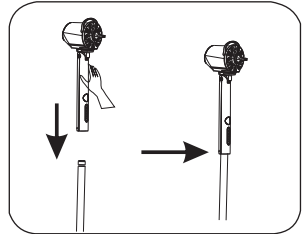

Figure 3
4. Loosen the locking nut for switch case and insert the lift pole into the hole located on the bottom of the switch case in place, then fasten the locking nut back tightly. (See Figure 3)